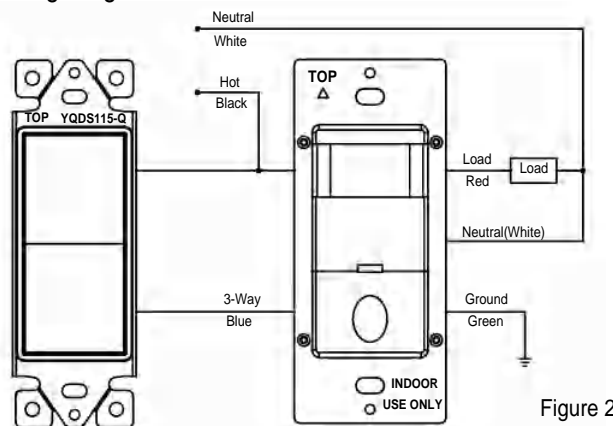

Figure 2
1. Connect lead wires as WIRING DIAGRAM (see Figure 2)